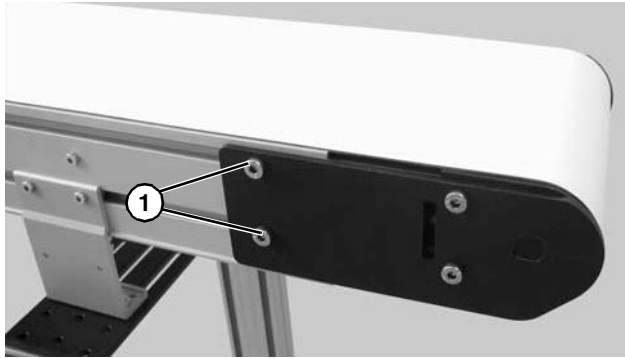

Figure 38
1. On the side of conveyor which the belt is tracking towards, loosen the head plate fastening screws (**Figure 38, item 1**).
3. Re-tighten the head plate fastening screws (**Figure 38, item 1**) with a 5 mm hex-key wrench to 146 in-lb (16.5 Nm).